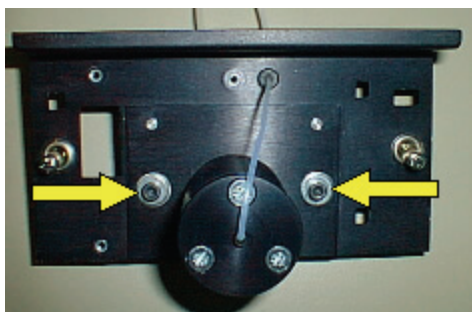

Figure 29 Mount plate locking screws
8. Remove the accessory from the LS 45 sample area and tighten the locking screws shown in Figure 29.